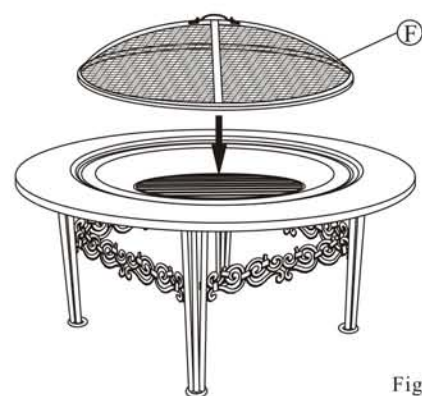

Figure 4
Place the mesh cover (F) over the steel Fire Bowl (D) as shown in Figure 4. **CAUTION: TO PREVENT HOT EMBERS FROM ESCAPING, ALWAYS PLACE THE MESH COVER OVER THE FIRE BOWL BEFORE LEAVING THE FIREPIT.**